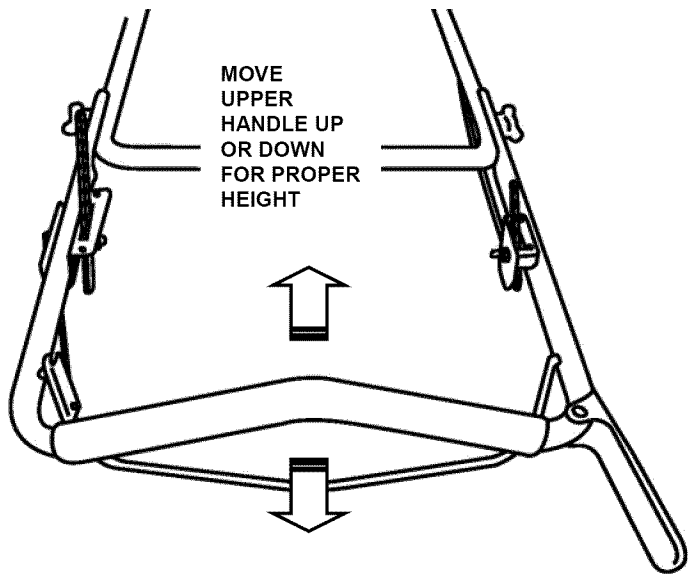

FIGURE 5
STEP 6: Move the handle up or down to the desired height. See Figure 5. Retighten all nuts loosened in step 5 securely after adjustment.